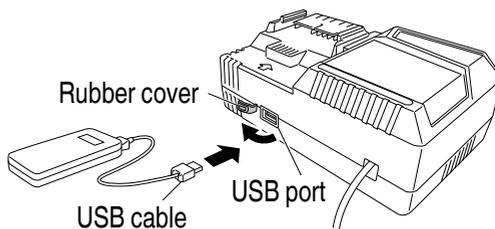

Fig. 39
- (2) Connect the USB cable. (**Fig. 39**)